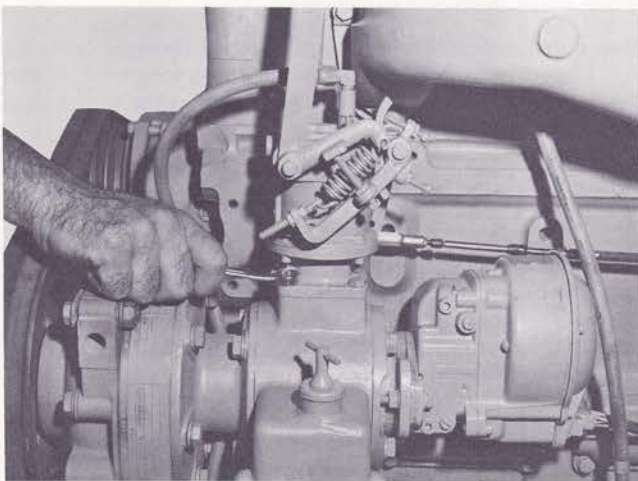

Fig. 4-19. Removing governor stud nut
3. Remove nuts, lockwashers and flatwashers securing governor to drive housing. Fig. 4-19. Lift off governor assembly and discard gasket.